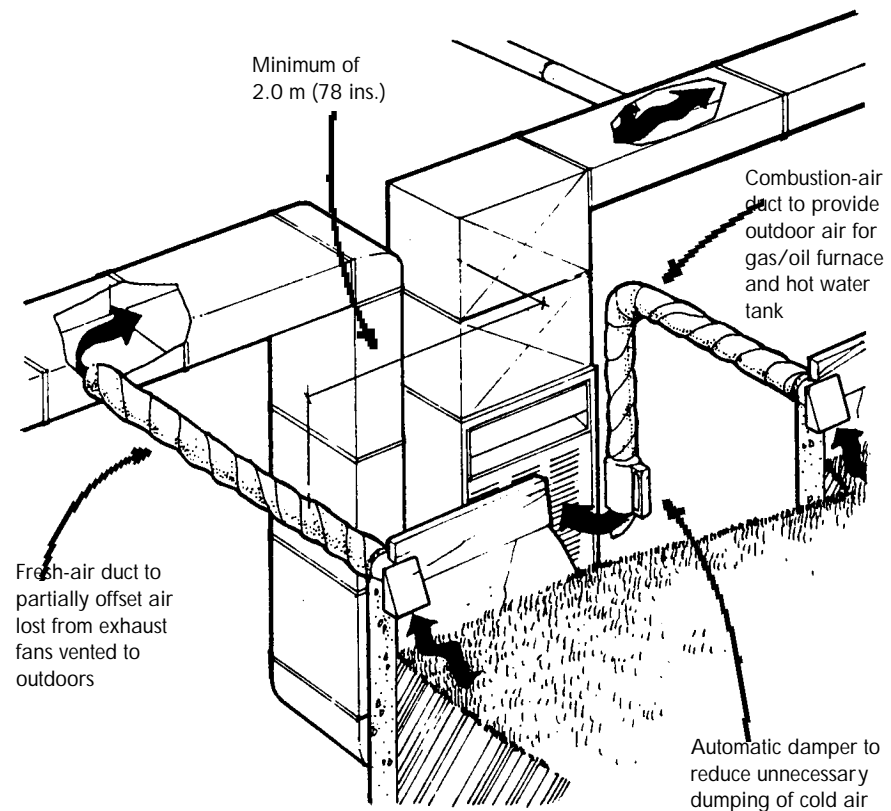

Figure 20: Reducing pressure differences with fresh-air and combustion-air ducts
An alternative is to install a combustion-air duct and fresh-air duct (see **figure 20, page 27**). This would avoid the inconvenience, discomfort and security problem of opening windows.
- Install an insulated duct to provide outdoor air to a gas or oil furnace, boiler or water heater (see **figure 20**). To reduce heating costs and avoid comfort problems, equip this combustion-air duct with an approved automatic damper or diffuser which activates only when the furnace, boiler or water heater turns on.
- If the home will have a forced-air heating system, install an insulated duct from the outdoors to the main return-air duct (see **figure 20**). This fresh-air duct will partially offset the air lost from exhaust fans vented to the outdoors such as the kitchen fan, bathroom fan, clothes dryer or central vacuum system.